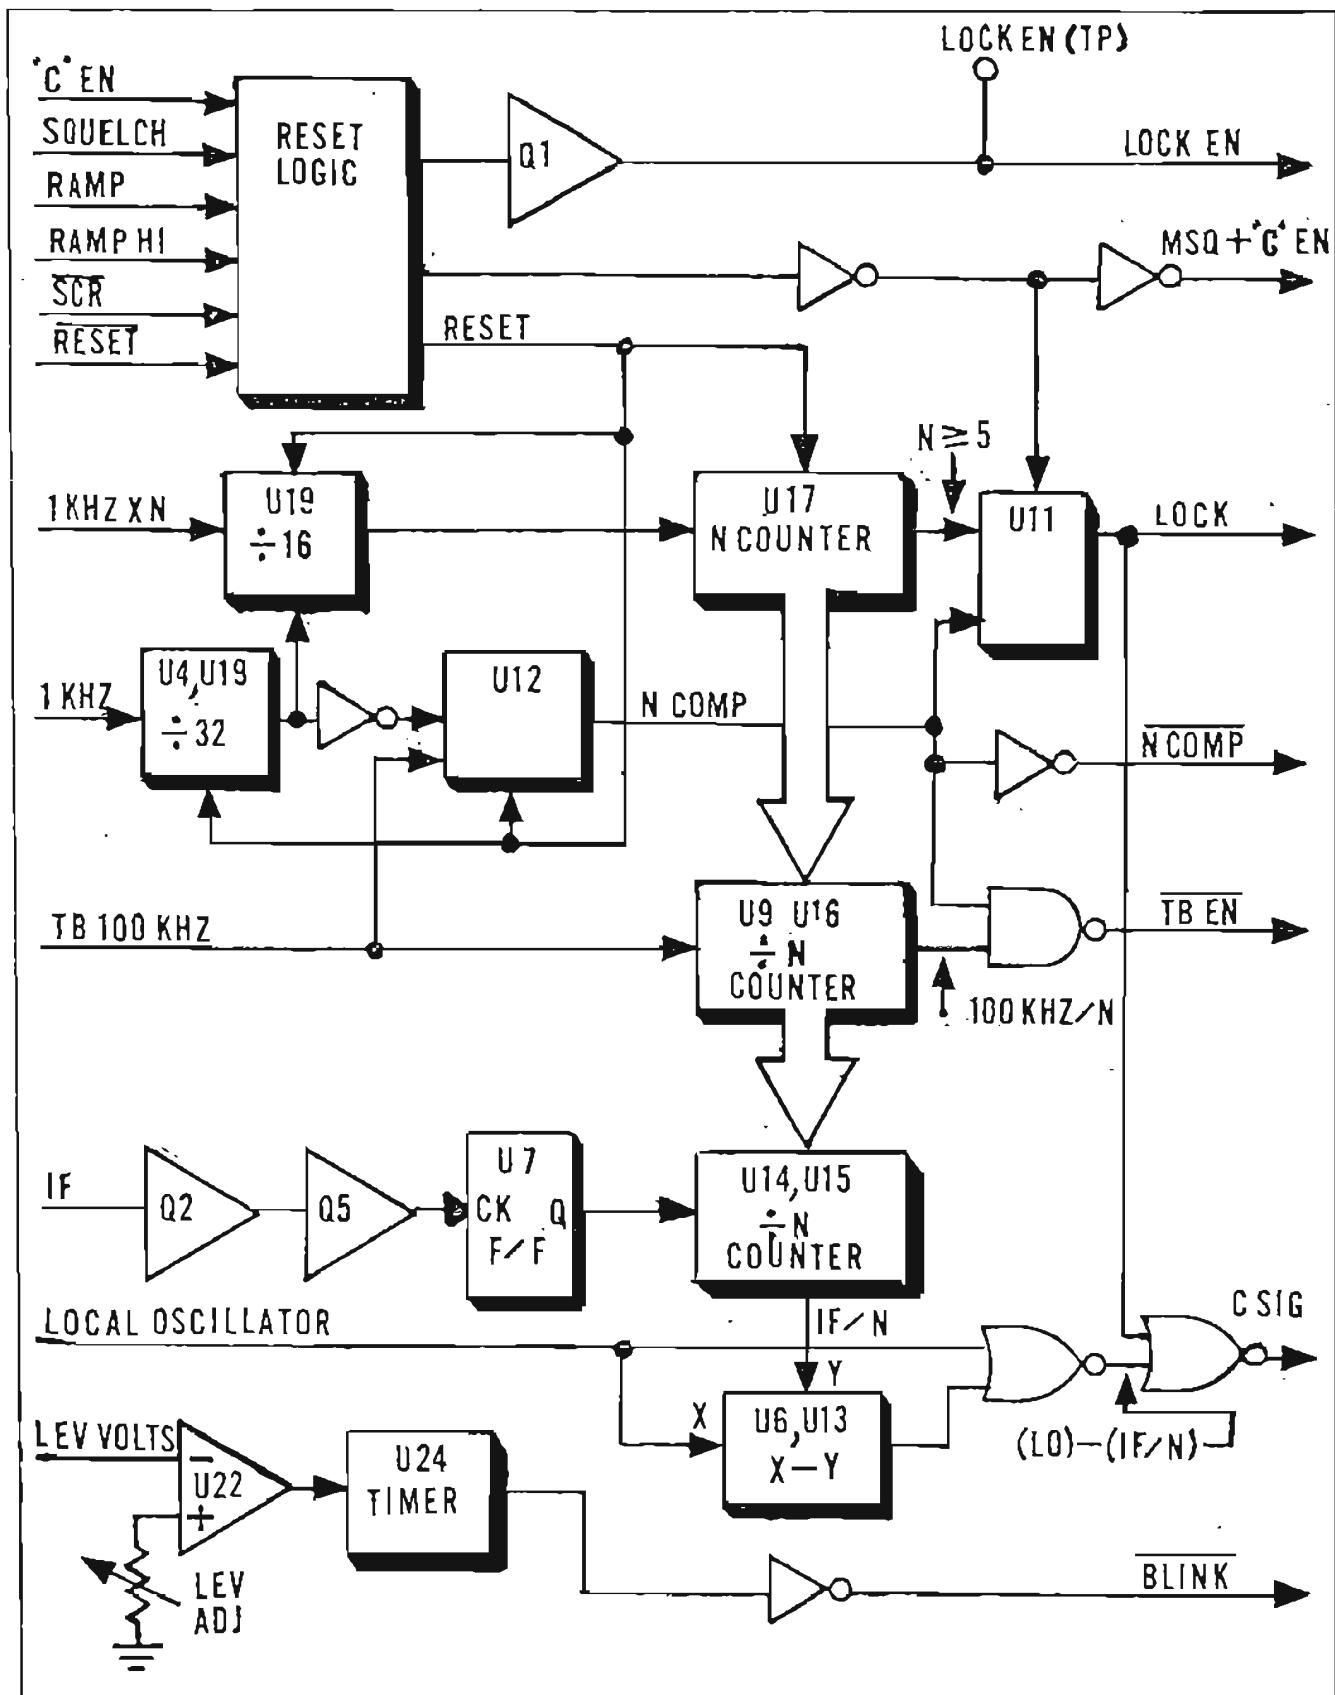

Figure 4-10. FЛАCTO Logic (A10) Block Diagram
4-111. Refer to Figure 4-10 and Schematic 06759901 for the following discussion. FЛАCTO Logic Assembly A10 computes the local oscillator harmonic (N) being mixed with the C INPUT signal. Once N is computed, it is used to extend the gate time and scale the IF input, such that the C SIG output of A10 is an exact submultiple of C INPUT.